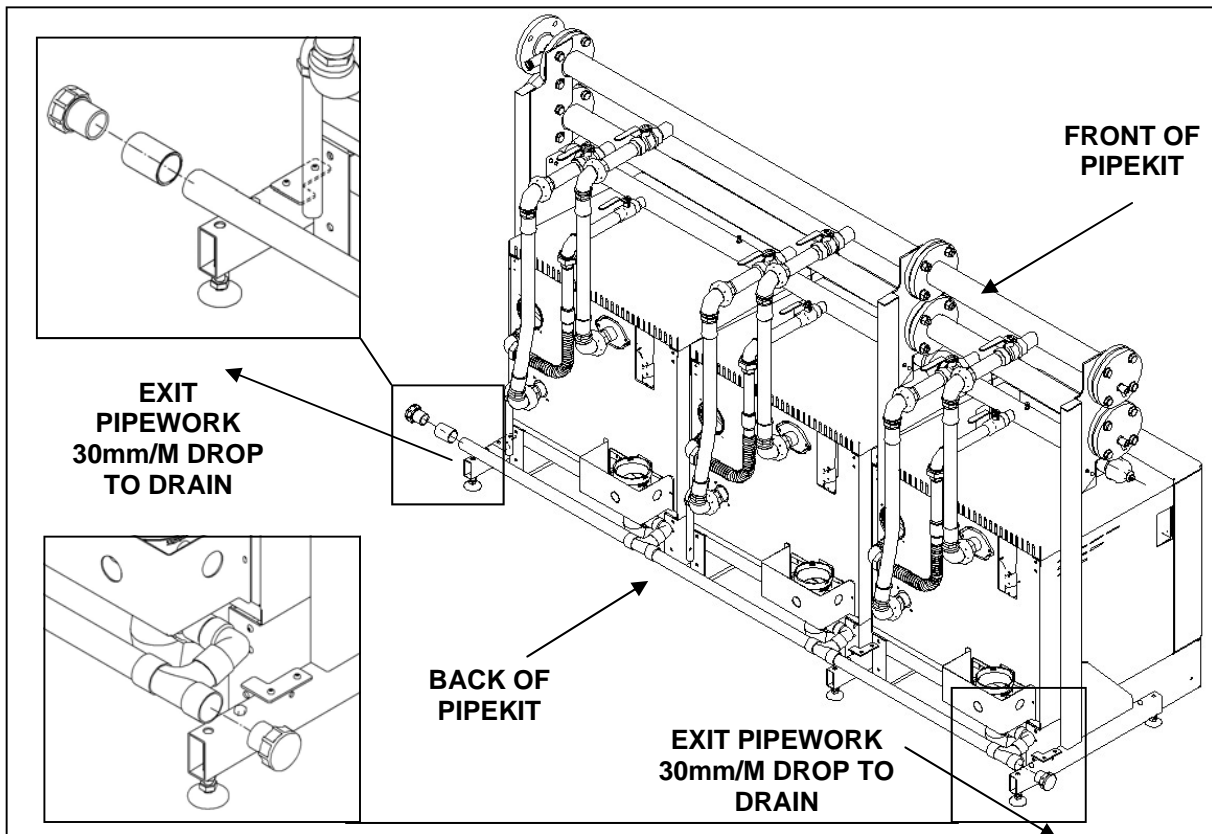

Figure 5.15 — Assembly Of Rod Eye To Either End Of Pipe Kits (F40H & F250H Boilers)
5.39 The connection to drain can be made at either of the condensate pipe work. Fit the rod eye to the opposite end to which the drain connection is made as shown in Figure 5.15 & 5.16 below.